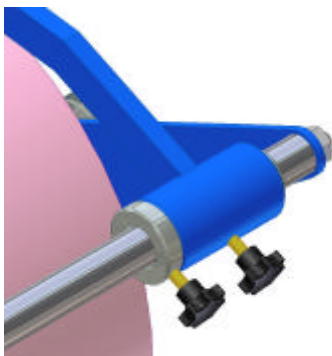

Figure 12
* Both screws must be in one place, see Figure 12